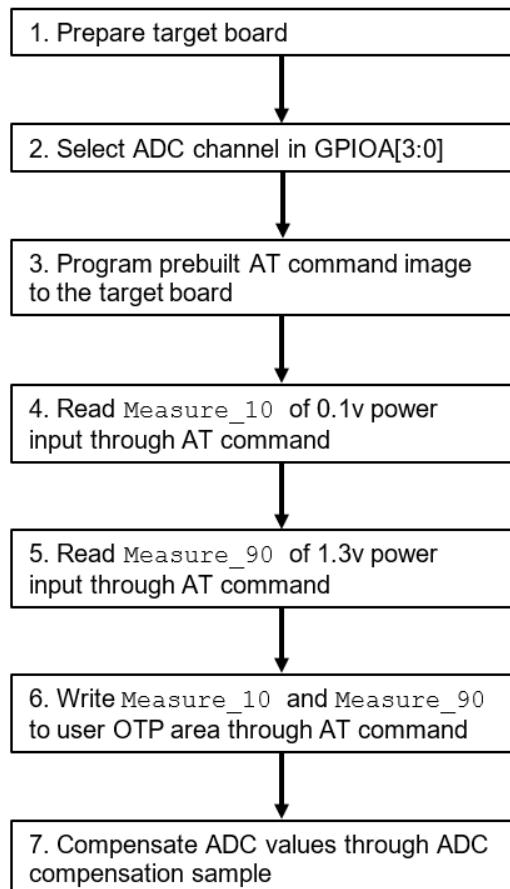

Figure 24. ADC calibration procedure
7. Compensate ADC values through ADC compensation sample. Figure 24 shows the procedure of ADC calibration.